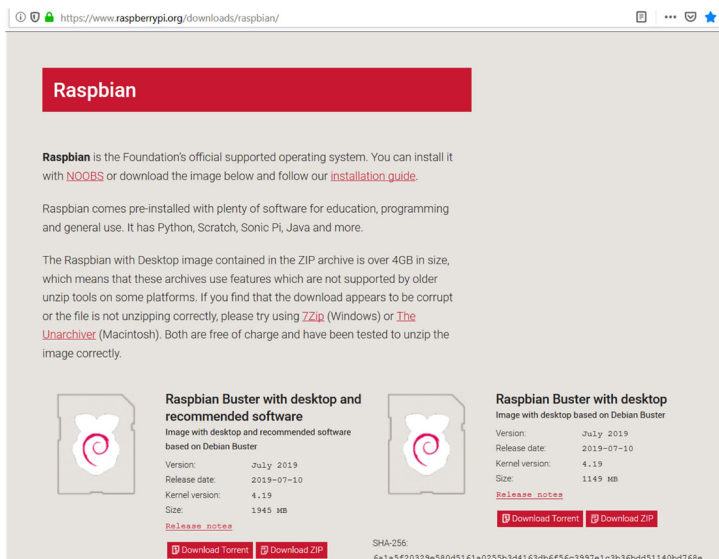

Figure 1.1 Raspbian Buster download page
- Download the Buster image to a folder on your PC (e.g. C:\RPiBuster) from the following link by clicking the Download ZIP under section **Raspbian Buster with desktop and recommended software** (see Figure 1.1). At the time of writing, the file was called: **2020-02-13-raspbian-buster-full.img**. You may have to use 7Zip to unzip the download since some of the features are not supported by older zip software.